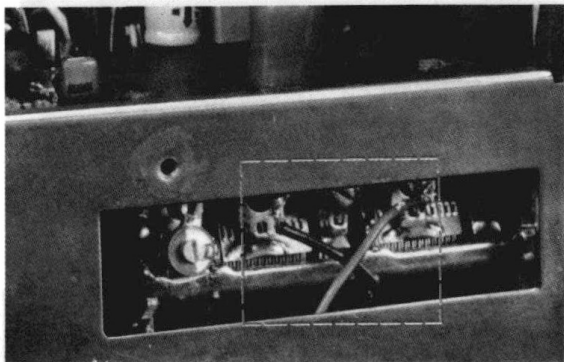

Fig. 2-6. Lead wires between tuning capacitor and a-m pc board.
2. Unsolder the two lead wires which connect between the printed circuit board and the variable capacitor as shown in Fig. 2-6.